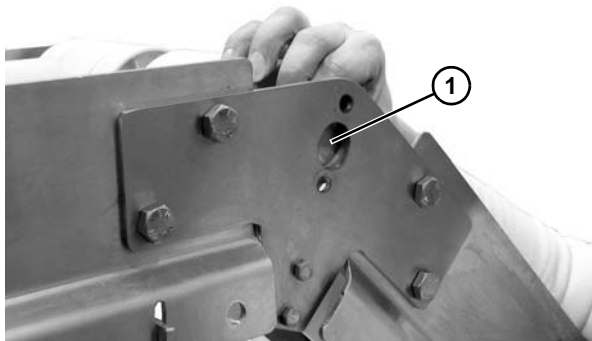
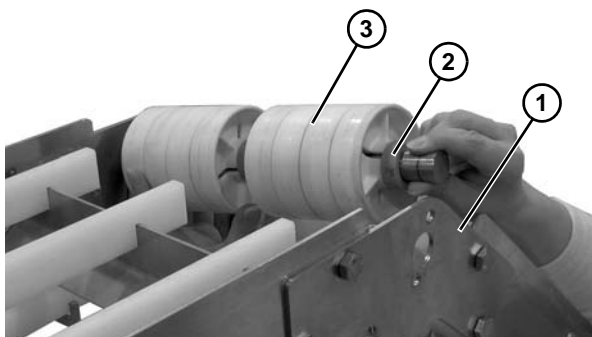

Figure 63
Figure 64
- Slide shaft (**Figure 63, item 1**) inwards to remove from knuckle frame (**Figure 64, item 1**).
Spacer (**Figure 64, item 2**) and pucks (**Figure 64, item 3**) are loose and can slide off the shaft.